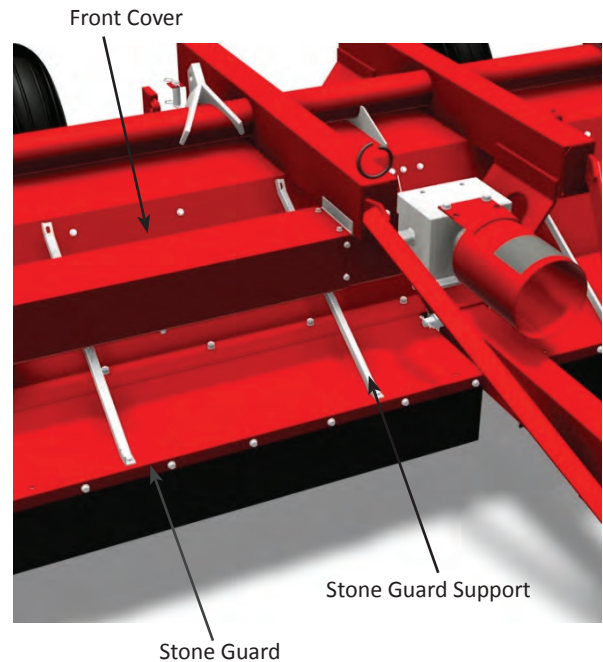

Figure 7: Guards and Covers
2. Assemble the stone guard supports to the stone guards as shown in Figure 7. Use 3/8" – 16 x 1" (Grade 5) hex washer head cap screws and whiz locknuts.
4. Install the assembled stone guards to the Shredder front covers, shown in Figure 7. Use 3/8" – 16 x 1" (Grade 5) hex washer head cap screws and whiz locknuts to secure stone guard supports to the top of the front covers. Use 3/8" – 16 x 3/4" (Grade 5) hex washer head cap screws and whiz locknuts to secure the stone guards to the bottom of the front covers.